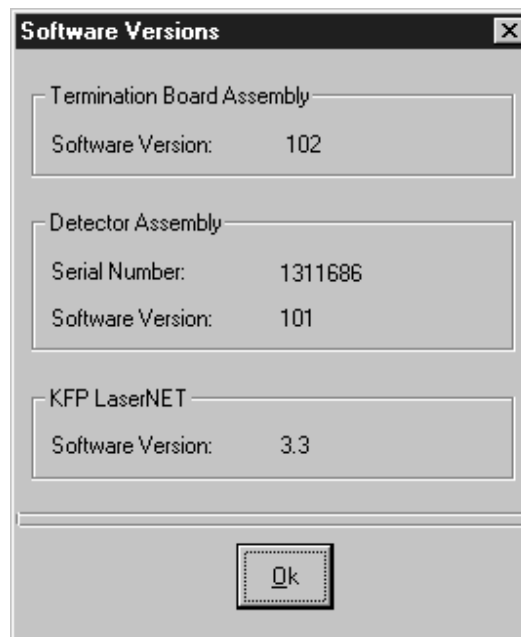

Figure 6-27. Software Version Window
1. Select **Options>Software Version**. The Software Version window opens (Figure 6-27).